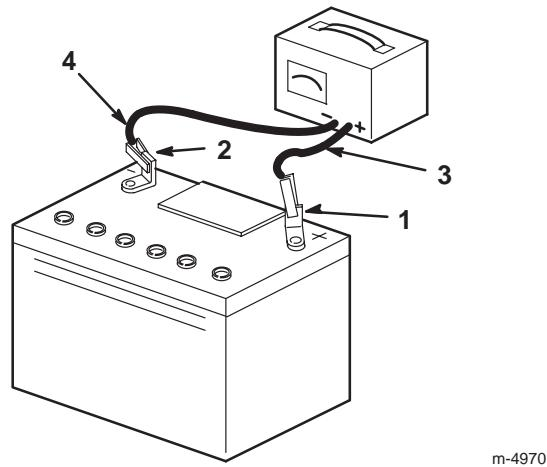

Figure 17
- Disconnect the charger leads from the battery posts (Fig. 17).